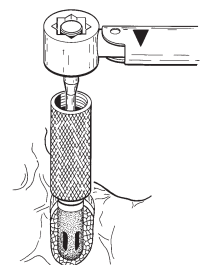

Fig. 2
5. Final torque tightening of the Locator Abutment to prevent screw loosening is achieved using the 30N-cm Torque Wrench Kit (Zest order #9020, Fig. 2). The 15mm length Square Drive Torque Wrench Driver is used when interocclusal space is limited, and the 21mm length is used when interference is caused by an adjacent tooth.